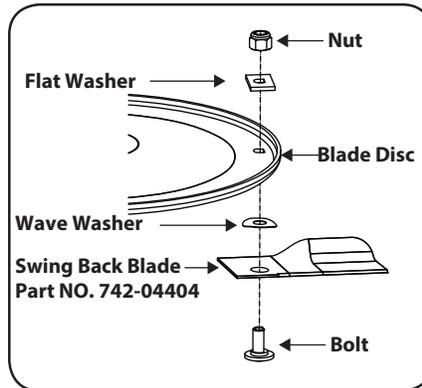

Figure 7-2
- c. Attach the new swing back blades with a new hardware kit for each, following the assembly instructions shown in Fig. 7-2.